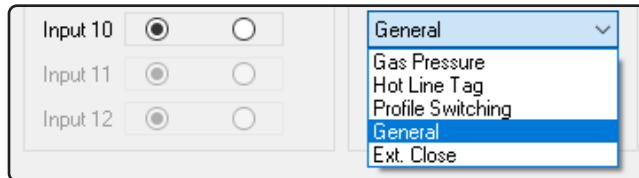

Figure 39 Intrusion Detection Input 10 Setting Screen
- Using S-7600 IPScam **Setup/Configuration/Relay/Input**, assign **Input 10** as General (Figure 39).